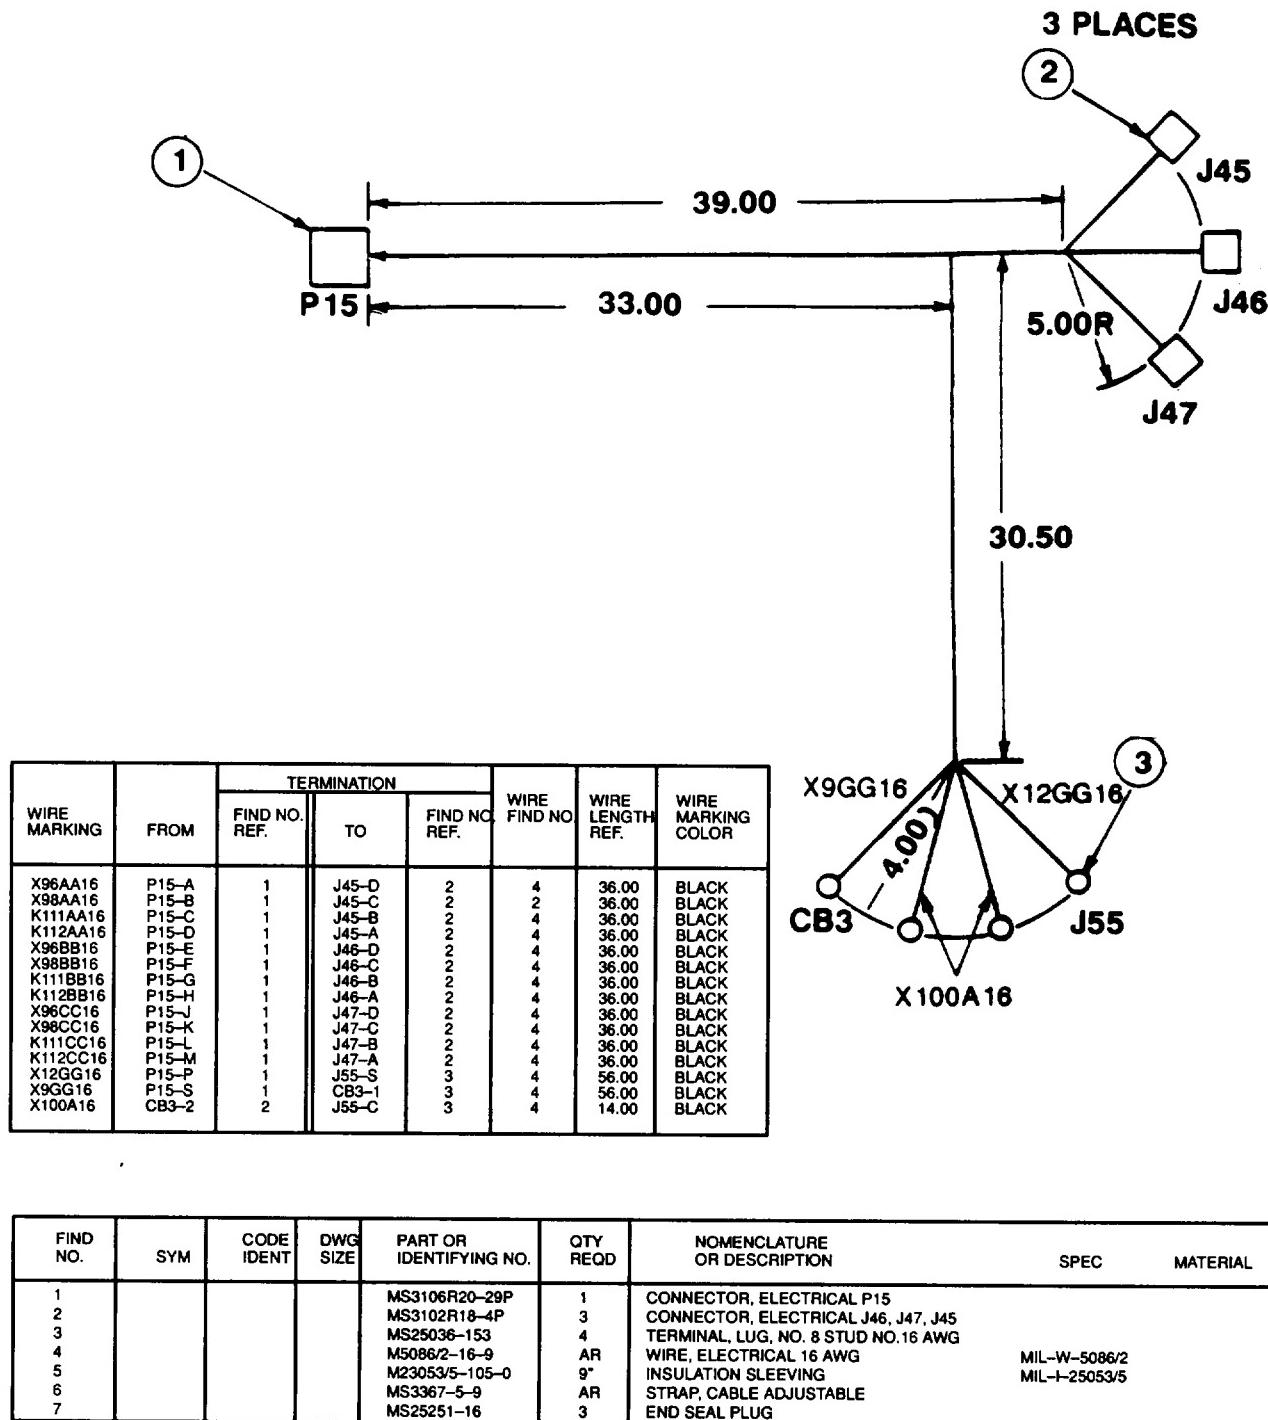

Figure 3-99. Convenience and Paralleling Receptacles Wiring Harness, Drawing No. 72-2286
- b. If the wiring harness has sustained damage and requires repair or rebuild, refer to figure 3-99 for layout, identification, and material requirements and Appendix A for detailed soldering and replacement procedures.